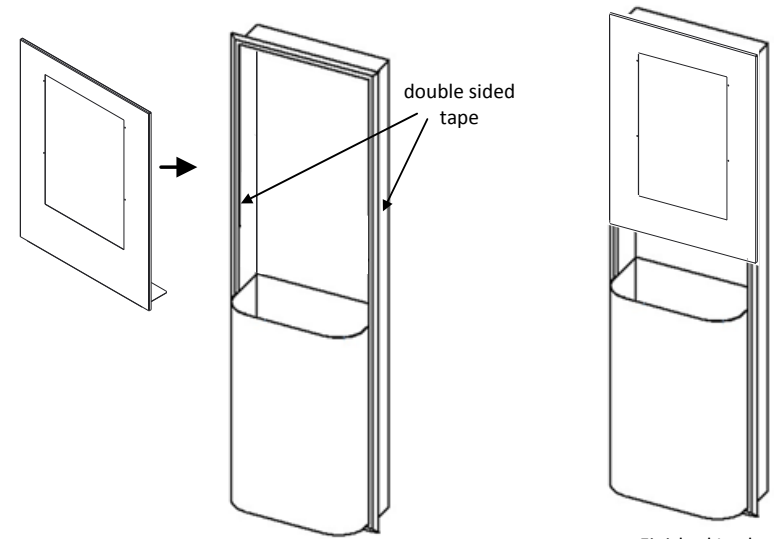

Figure 7.
- Remove the backings on one side of the tape and place them with the adhesive side onto the bezel as shown in Figure 7. Keep the backings remaining on the front face of the tape.